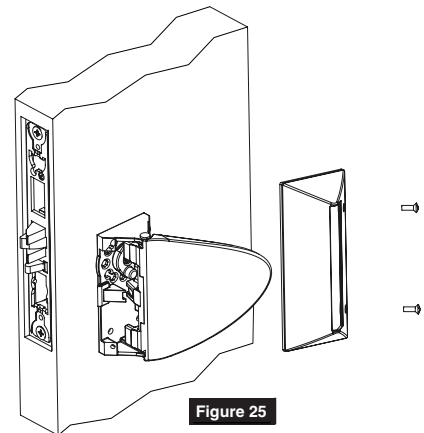

Figure 25
13. Install cover using 5/16" oval head mounting screws. (Figure 25)